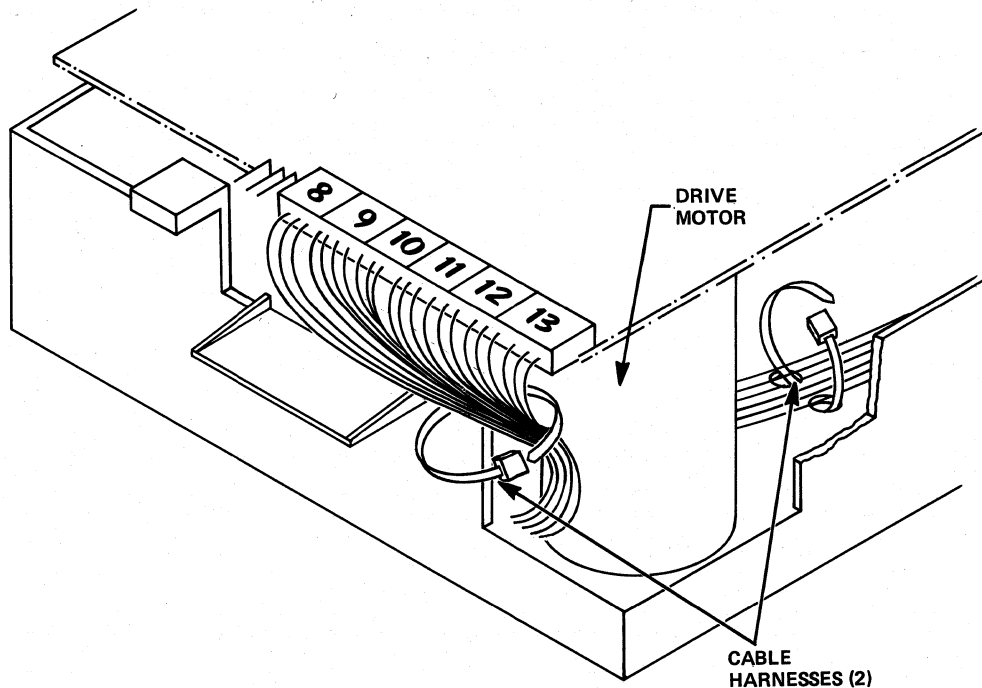

Figure 5-20
5.11.2 Cut the two (2) harnesses that hold the bundle of cables at the back of the drive motor, and that attach the cables to the bottom of the chassis (see Figure 5-20).
- 5.11.12 Harness the new Track 00 Sensor Assembly's cables, the Activity LED Assembly's cables, and the Write Protect Switch Assembly's cables to the bottom of the chassis (see Figure 5-20).
- 5.11.13 Harness the bundle of cables, including the new Track 00 Sensor Assembly's cables, located at the back of the drive motor (see Figure 5-20).